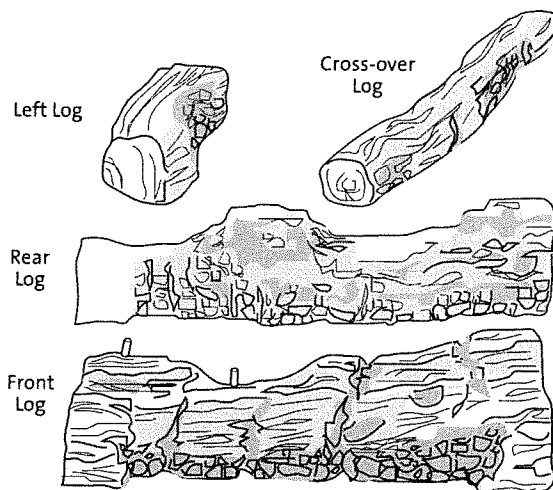

Figure 20. GF 600 DV Log set parts.
2. **Install the Rear Log**, oriented as shown in Fig. 20. Place the log on the shelf (Rear Log Support) against the back wall of the firebox. Push it over to the right rear corner.